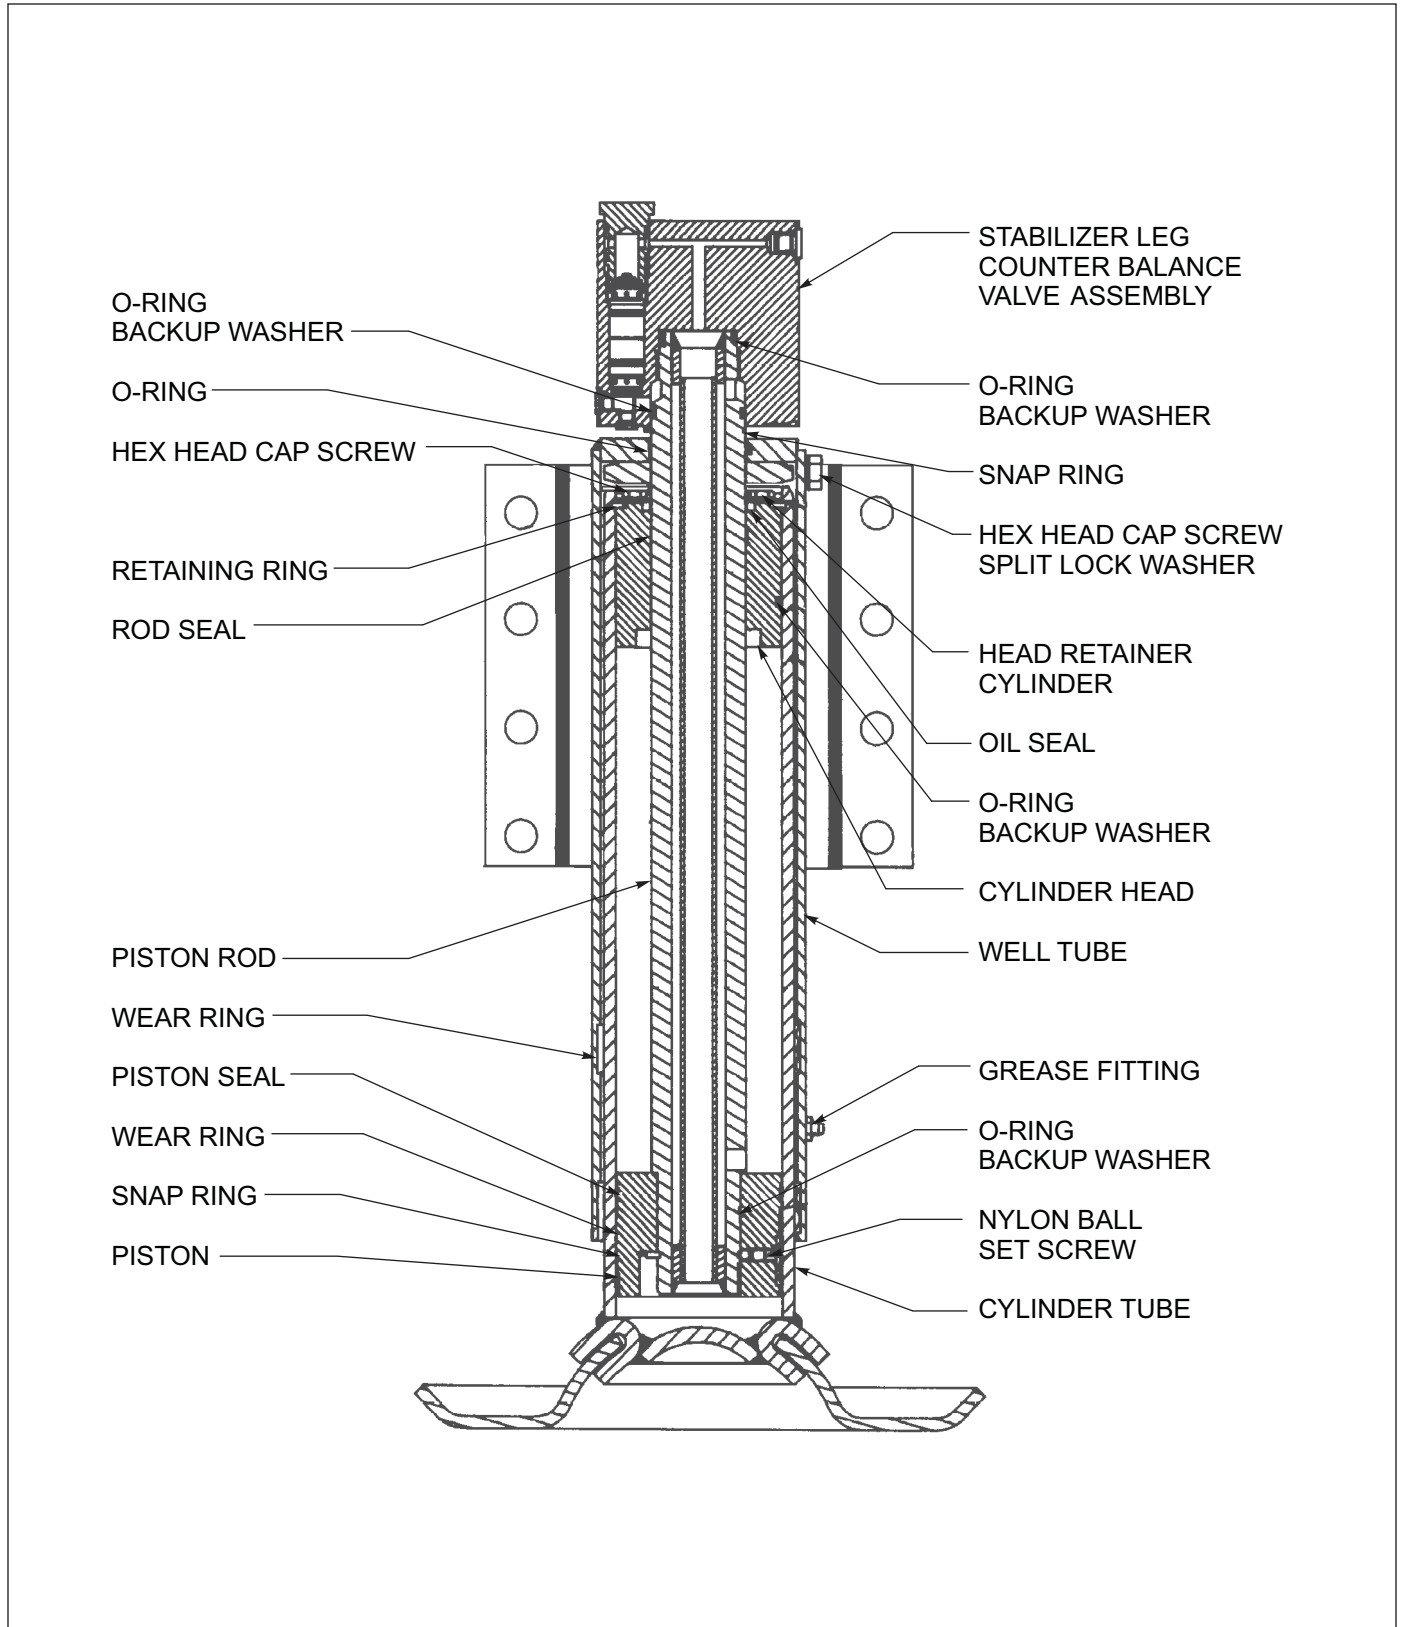

Figure 4-26: Dock Leveler Leg Assembly
2. Remove the lock valve from the leg by screwing counter clockwise **(See Figure 4-26.)** If you need only to repair the lock valve, it may be removed from leg while still on trailer if you have a minimum of 2" clearance above.